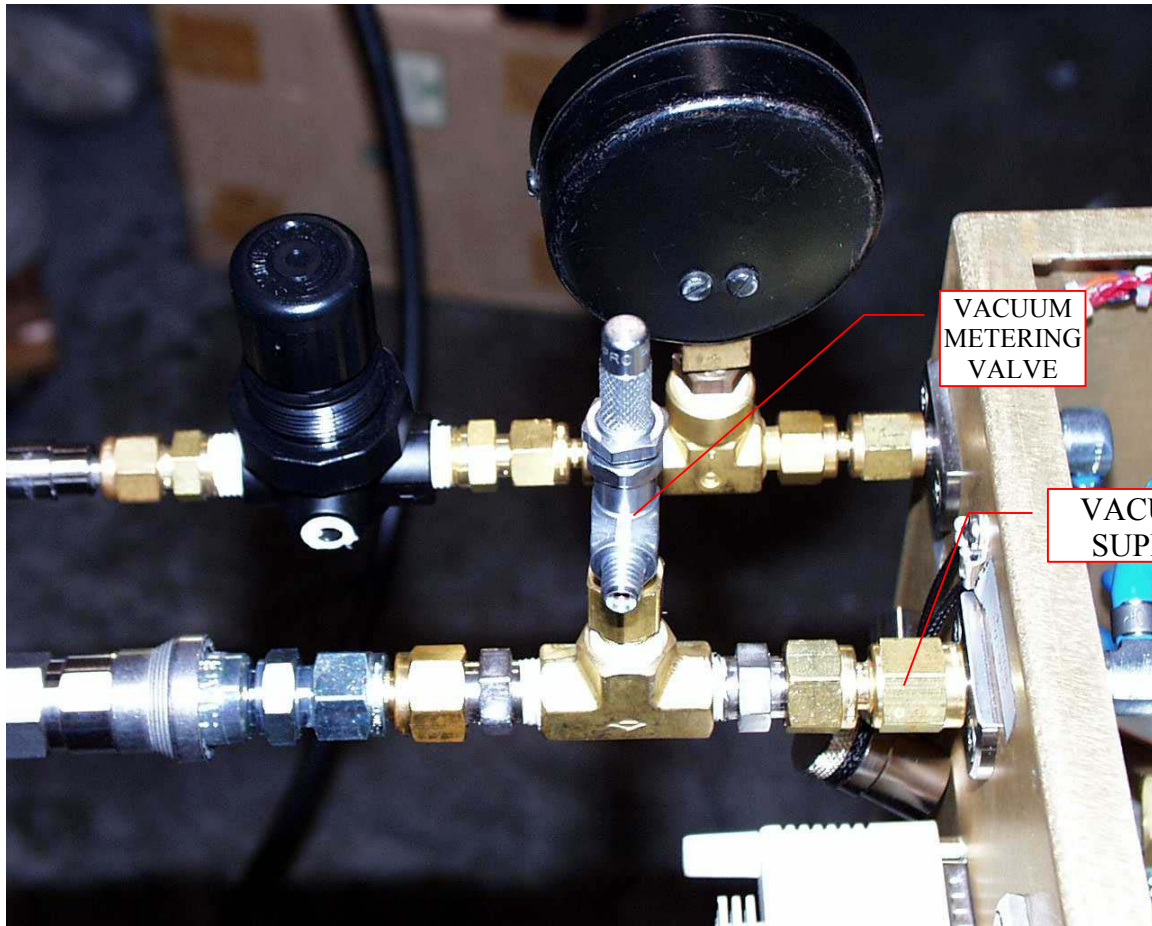

FIGURE E2-1 VACUUM METERING VALVE
- Metering Valve Adaptor with Metering Valve (see Figure E2-1)
- Attach the metering valve adaptor to the Vacuum supply port on the back panel of the 7710 ADTS. See Figure E2-1. This setup is only required to attain two distinct vacuum levels for calibrating the on-board vacuum sensors. If the vacuum sensors are not to be calibrated, the vacuum source may be directly attached to the vacuum supply port.